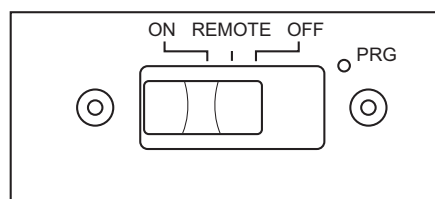

Figure 56 - Remote Selector Switch in ON Position
10. Wait one minute and switch selector switch to the ON position to light burners (see **Figure 56**). When using in the ON position (without remote) burners will light on high. There is no adjustment to the flames without using remote.